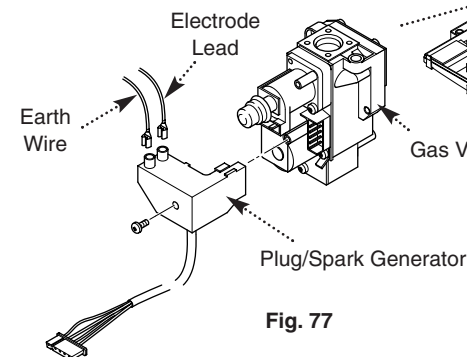

Fig. 77
12.16 Gas Valve Plug/Spark Generator (Fig. 77)